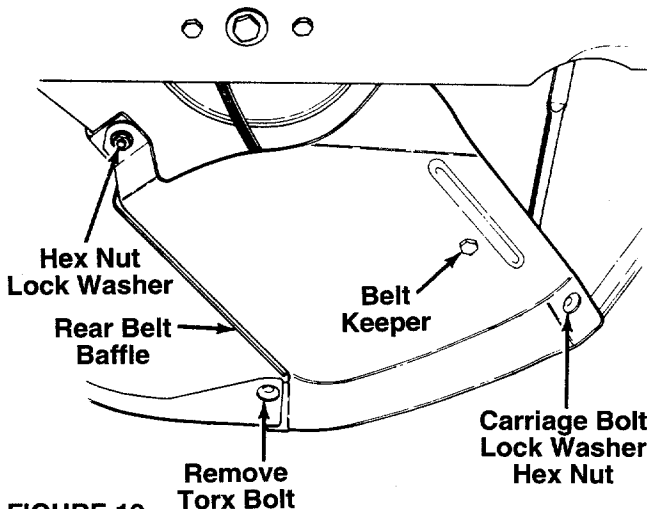

FIGURE 12.
4. Remove the rear belt baffle by removing the lock washer and hex nut shown in figure 12. Then remove one Torx bolt, using a #27 Torx driver. A 9/64" Allen wrench may also be used. Then remove one carriage bolt, lock washer and nut as shown.
NOTE: When reassembling the rear belt baffle, make certain the belt keeper is outside of the belt, and the edge of the rear belt baffle is between the rear chute baffle and the rear panel as shown in figure 12. Make certain to tighten all nuts and bolts securely. If plastic was placed under the gas cap, be certain to remove it.